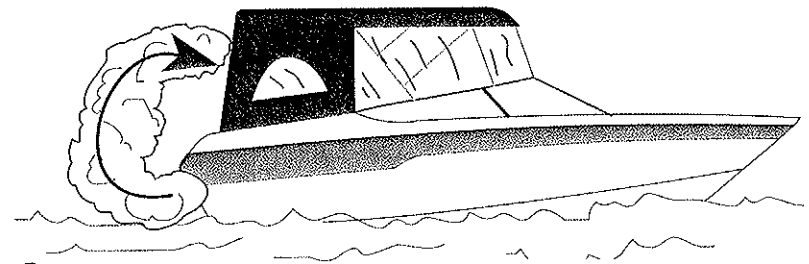

Figure 2.3 Exhaust Accumulation While Canvas is in Place
**DANGER:** Engine exhaust from your boat while underway can cause excessive accumulation of carbon monoxide within the cabin and cockpit areas when using protective weather coverings. Provide adequate ventilation when the canvas top, side curtains, and/or back curtains are closed. See Figure 2.3